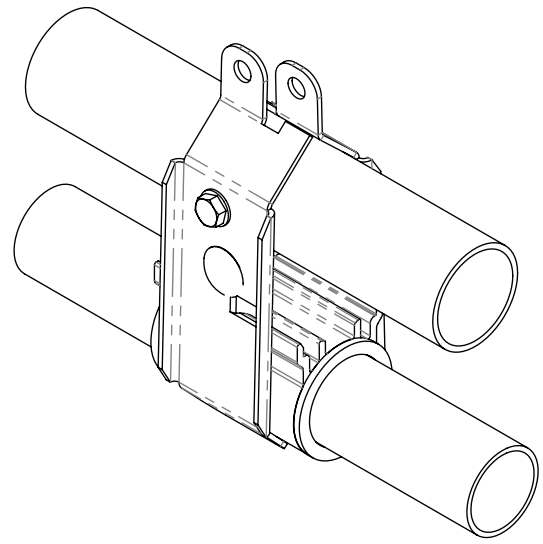

Figure 6: Isometric View of Assembly
- 1 Align metal clamps centered over the water line coupler as shown in figure 6 to the right.
3. Insert (2) 690112 tek screws into metal pipe